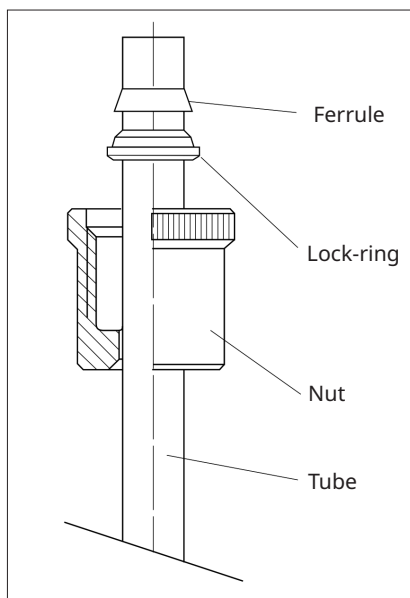

Figure 14: Connection of chemical cleaning/KCI tubing
2. Mount the connector at the chemical cleaning tube as shown in fig. 14.
2. Mount the connector at the KCl tube as shown in fig. 14.